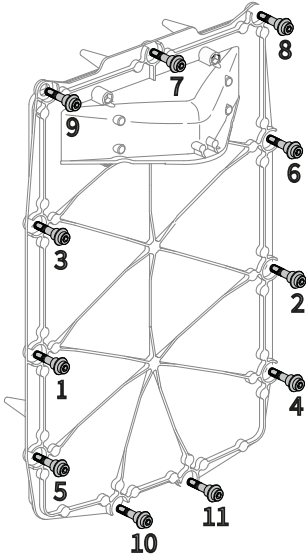

Figure 49: Tighten Allen bolts in cross pattern direction.
- 2.** Place the heat exchanger cover onto the heat exchanger and loosely install the 6mm Allen bolts removed in step 6. Tighten the 6mm Allen bolts in a cross pattern as shown in the Figure 49.